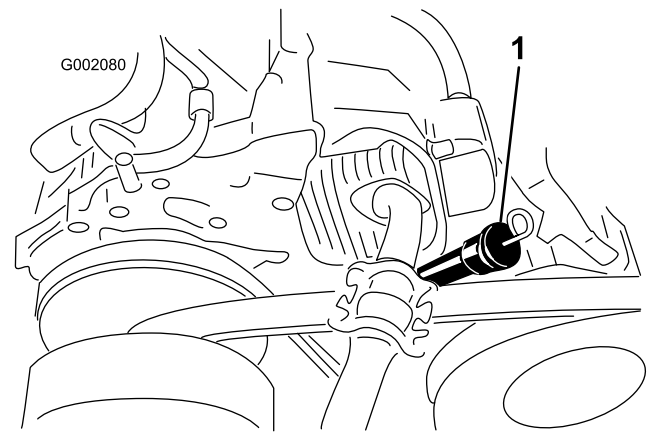
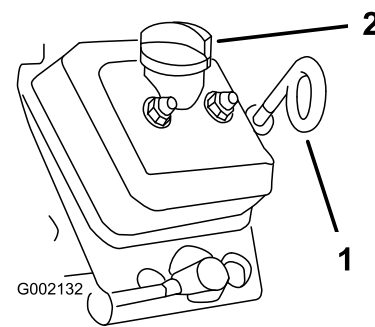

Figure 10
Figure 11
2. Clean around the oil dipstick (Figure 10 for model numbers 07266/TC and Figure 11 for model numbers 07273/TC) so dirt cannot fall into the hole and damage the engine.